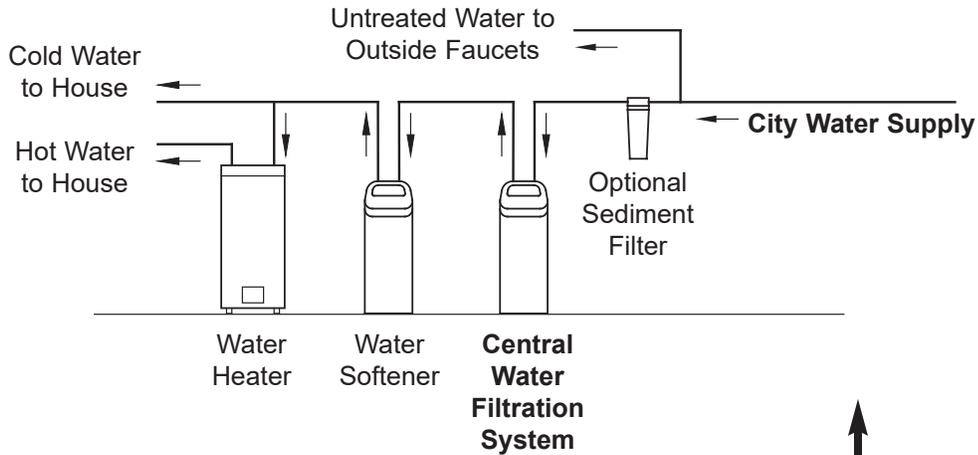

FIG. 2A
- Install the Central Water Filtration System between the home's incoming water supply and the water softener, if one is being used (See Figures 2A & 2B).